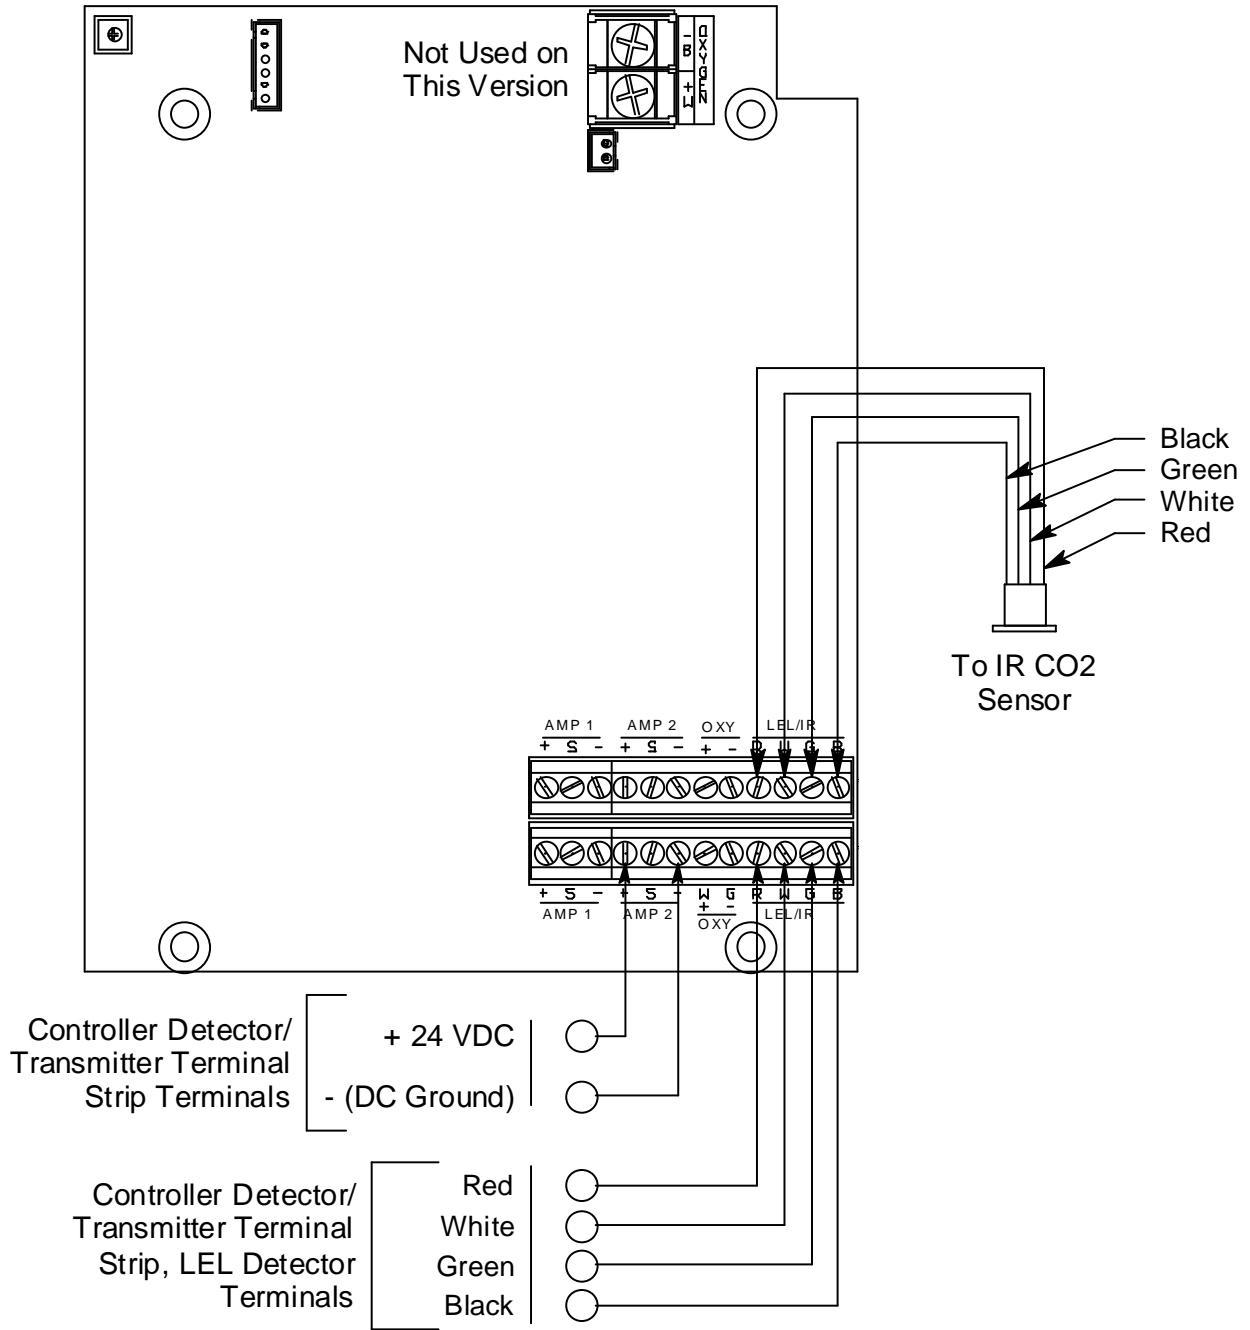

Figure 4: Wiring the Sample-Draw Detector to a Controller
5. Connect the cable to the sample-draw detector’s interconnect terminal strip as shown in Figure 4.
- Connect the wires to the applicable detector/transmitter terminal strip at the controller as shown in Figure 4. Refer to the controller operator's manual and the controller detector head specification sheet for the 35-3001-05-XX for detector/terminal strip connections specific to the controller.